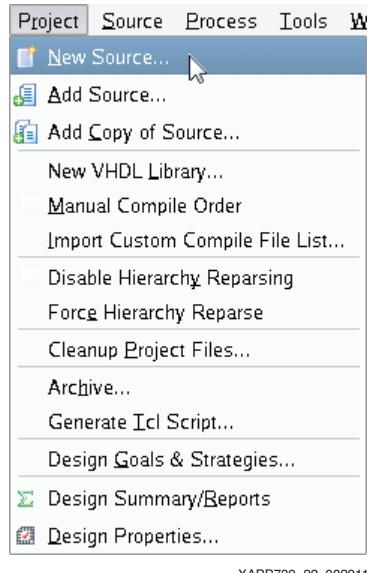

Figure 22: Creating a New Source in Project Navigator
9. Click **Project > New Source** to add a new IP core to the system (Figure 22).